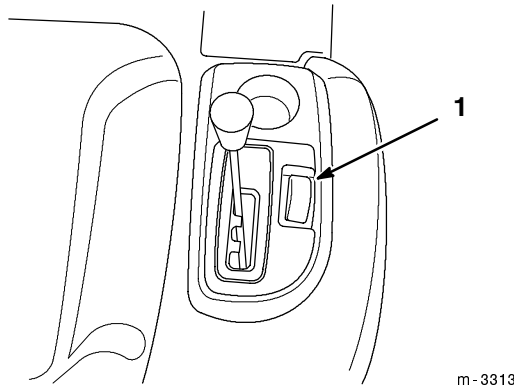

Figure 22
The cruise control is a switch (Fig. 22) on the right fender that maintains a set traction control position without foot pressure. The cruise control only operates when moving forward.
1. Begin driving the tractor; refer to Driving Forward or Backward, page 21. While holding your foot steady on the traction control pedal, push the cruise control switch (Fig. 22) to the “SET” position. This locks the traction control in position and your foot can then be removed from the traction control. A constant pedal position will be maintained.